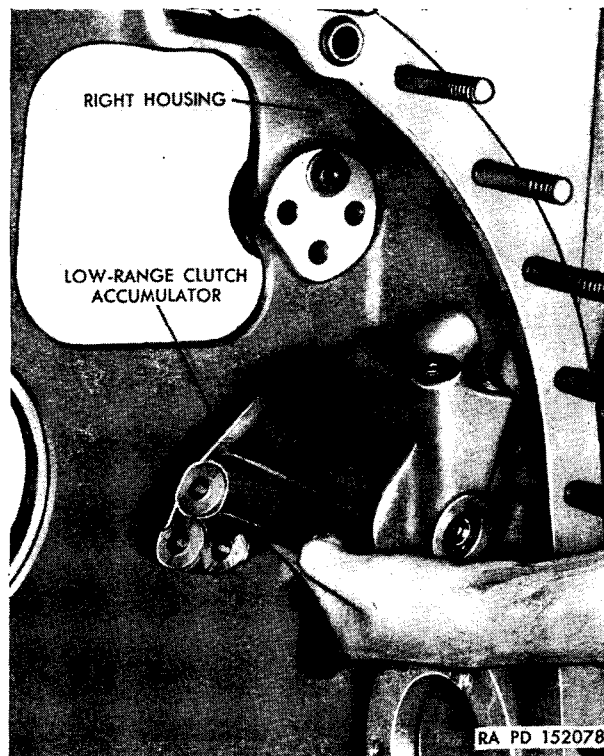

Figure 339. Removing or installing low-range accumulator.
- d. Using a $\frac{3}{4}$ -inch wrench, remove the three bolts and washers from the low-range clutch accumulator. Remove the accumulator from the housing (fig. 339). Remove the oil filler cap.